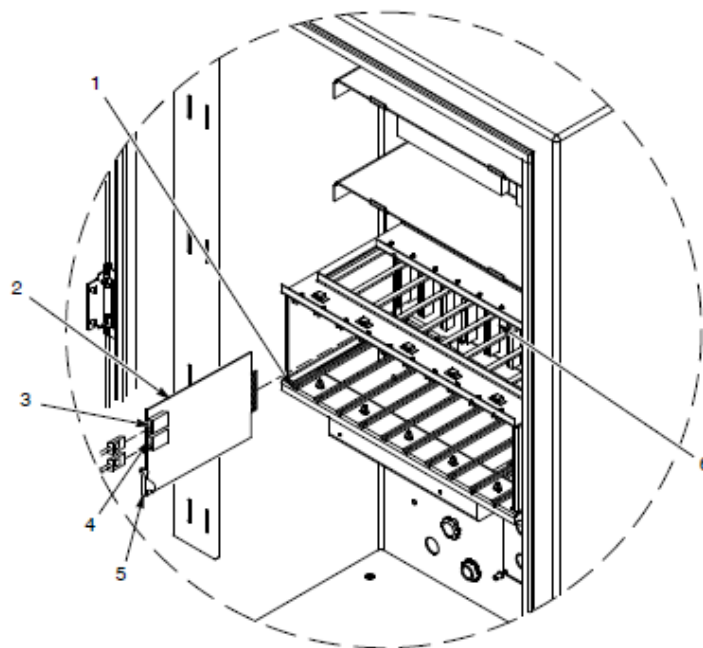

Figure 5-1 Gun Control Card Replacement
CAUTION: The gun control cards are electrostatic sensitive devices (ESD). To prevent damage to the cards when handling them, wear a grounding wrist strap connected to the Spectrum HD enclosure or other ground. Handle the cards only by their top and bottom edges. See Figure 5-1. Gun control cards (2) are installed in the card cage from left to right. Each card controls two guns: the bottom receptacle on the card is the odd gun number; the top receptacle the even gun number. To remove a card, unplug the gun harnesses from the card receptacles (3 and 4), pull down the locking tab (5), then pull the card out of the card cage. To install a new card, slide the card into the slots in the card cage and seat the card's finger board firmly into the connector slot on the backplane (6). Push the locking tab up to lock the card into the card cage. Connect the gun harnesses to the card receptacles.